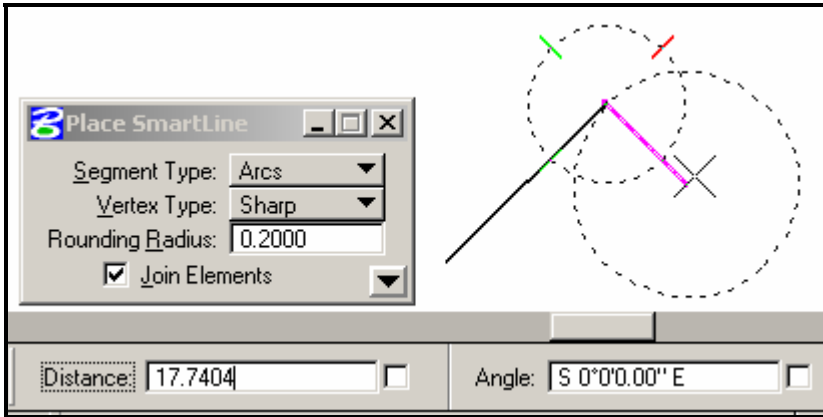

Figure 9-29: Swap to Smartline Arcs
- 🎵 Use the **Tilde** key (~) to toggle *Smartline* from **Segment Type Lines** to **Segment Type Arcs** (Figure 9-29).